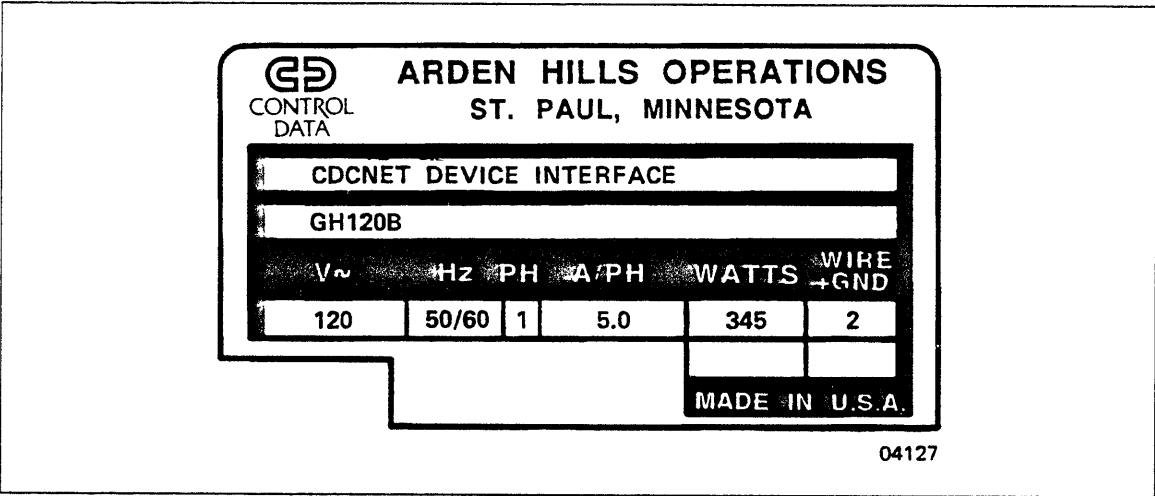

Figure 3-8. Typical DI Equipment Label
1. Check DI equipment label on the back of DI cabinet (figure 3-8) and verify that DI power requirements match those of the site (120 V ac or 240 V ac).